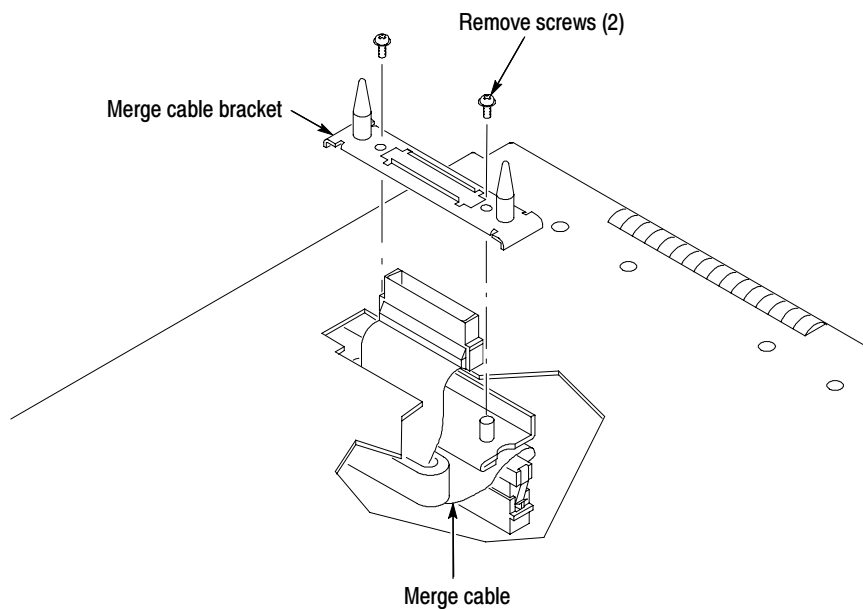

Figure 28: Feeding the merge cable through the cover
9. Replace the cover while feeding the merge cable through the hole in the cover (see Figure 28).